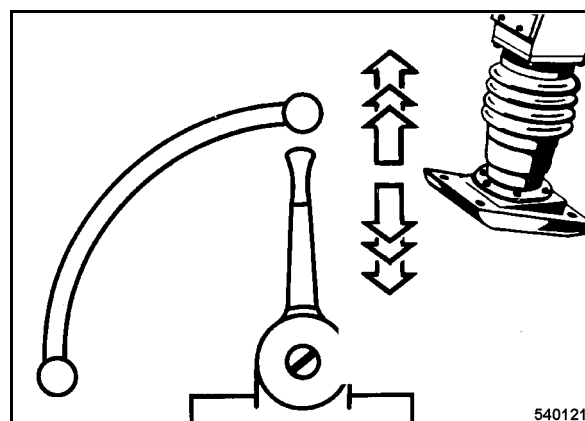

Fig. 18
- Set the throttle lever (Fig. 18) to "MAX"-position.